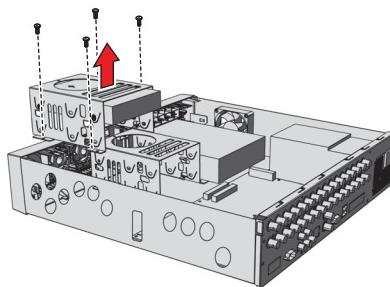

Figure 6. Lifting the Mounting Basket
2. Remove the HDD mounting basket (refer to Figure 6):